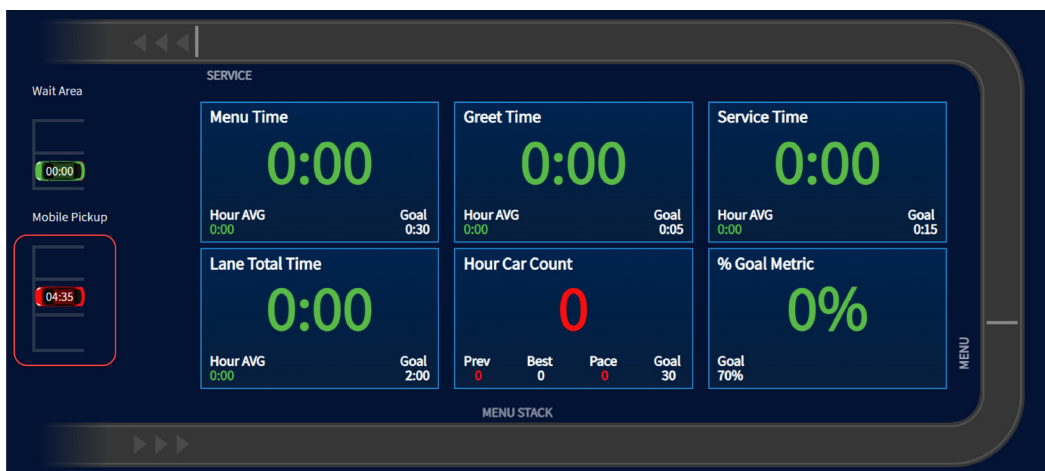

Fig. 7.2
- Fig. 7.2 shows where the wait areas such as Mobile Pickup and Pull-Forward spaces are displayed on the dashboard. In this example, the Wait Area above the Mobile Pickup zone is a Pull-Forward zone. They appear in the same general location on the dashboard regardless of their actual location on the premises.